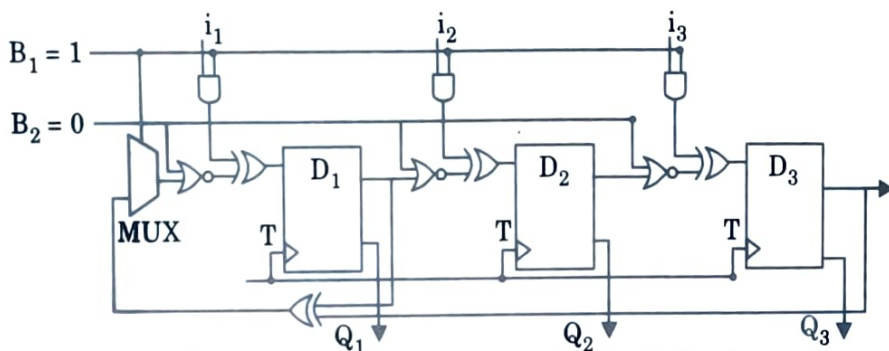

Fig. 5.16.5. Built-in-test-(BILBO) LFSR mode.
6. In the test 2 mode as shown in Fig. 5.16.5, $B_1 = 1$, $B_2 = 0$ and the circuit is then configured in a LFSR mode and be used either as a polynomial divider to compact data or as a random test pattern generator.